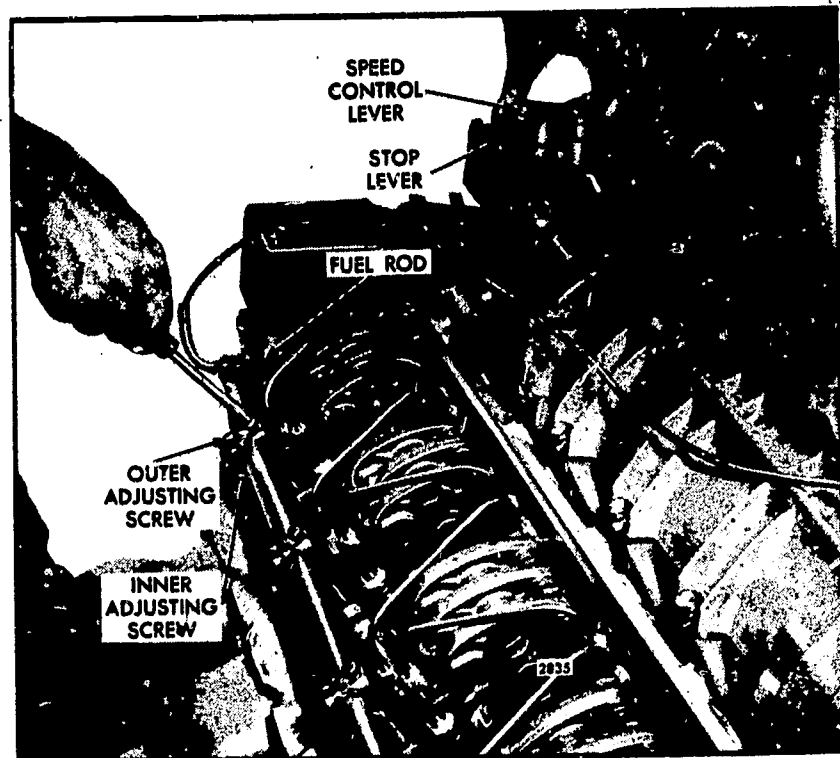

Fig. 9 - Positioning No. 1 injector rack control lever.
8. Move the governor speed control lever to the maximum speed position; hold in that position with light finger pressure. Turn the inner adjusting screw on the No. 1L injector rack control lever down until a step in effort is noted (Figure 9). This will place the No. 1L injector rack in the full-fuel position. Turn down the outer adjusting screw until it bottoms lightly on the